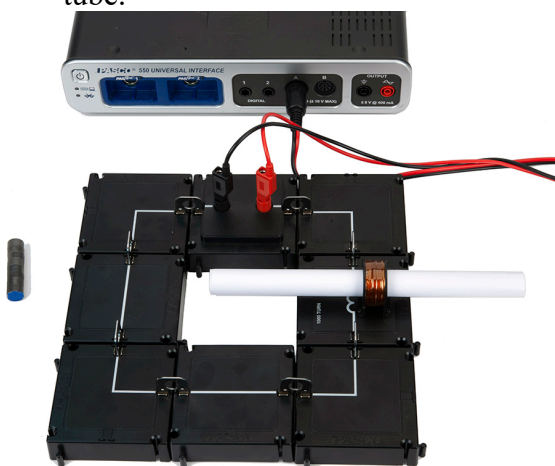

Figure 2: Setup
1. Assemble the circuit shown in Figure 2.